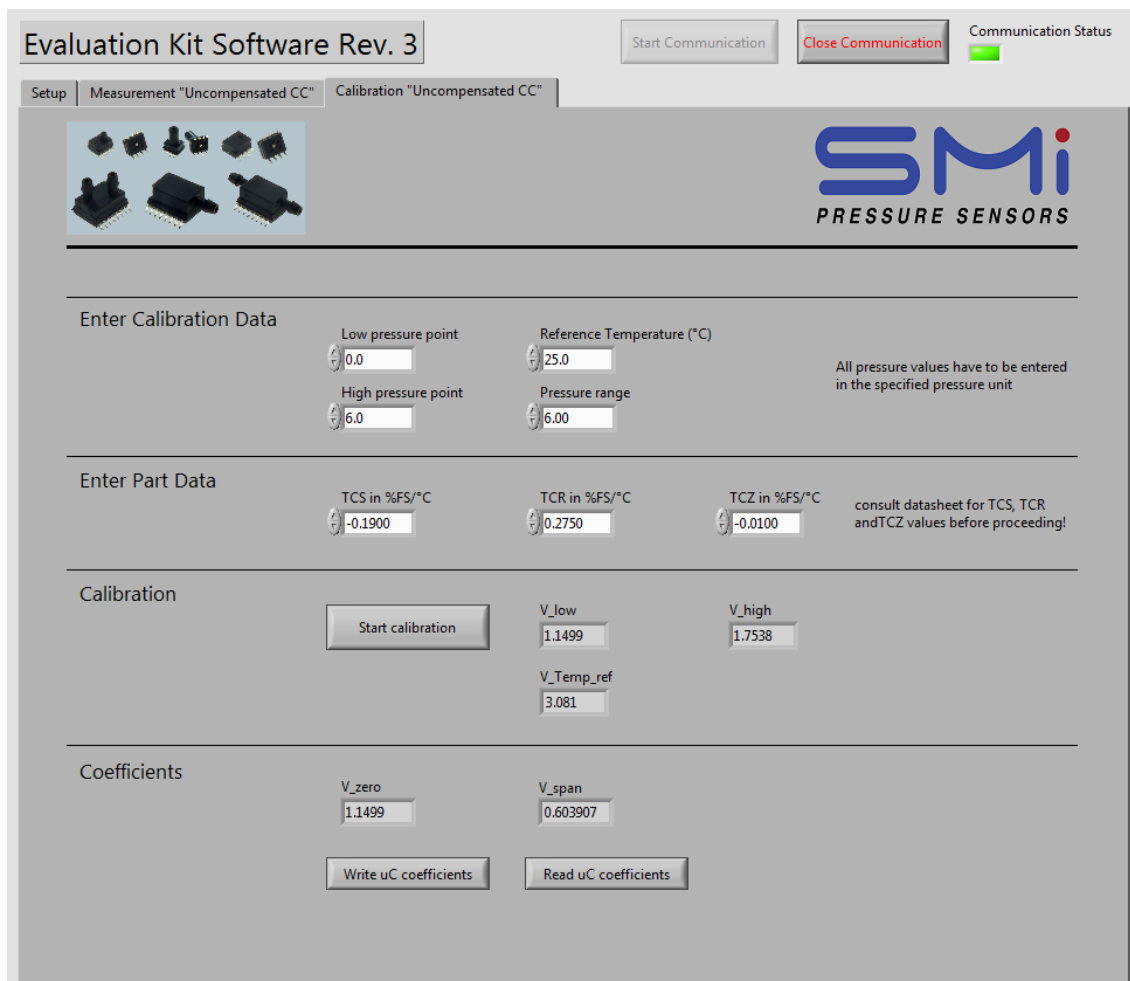

Figure 17: Calibration page of the constant current mode
First, start the software using a sensor that supports the constant current mode. They will be marked with (CC) behind the part number in the dropdown menu *Sensor*. Start the communication, then go to the tab named *Calibration "Uncompensated CC"* (see Figure 17) and follow the steps given below: